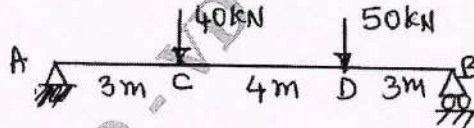

Fig. Q4 (c)
c. Find deflection at the load points C and D for the simply supported beam shown in Fig. Q4 (c) using Maculay's method. Take $EI = 12000 \text{ kN-m}^2$ (10 Marks)